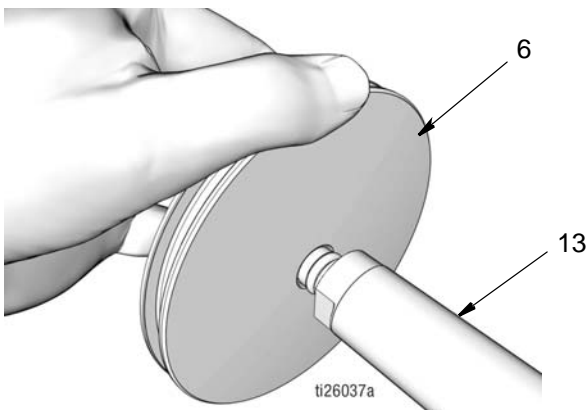

FIG. 48
- Push piston (6) over end of piston rod (13) until it is seated on the rod (FIG. 48).